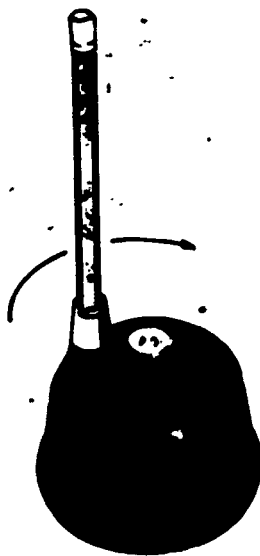

FIGURE 1
A. Sharpen a mechanical lead holder in a lead pointer (Figure 1)
1. Extend the lead approximately 1/2" out of the mechanical lead holder and insert it into the opening in the top of the lead pointer (Figure 1)